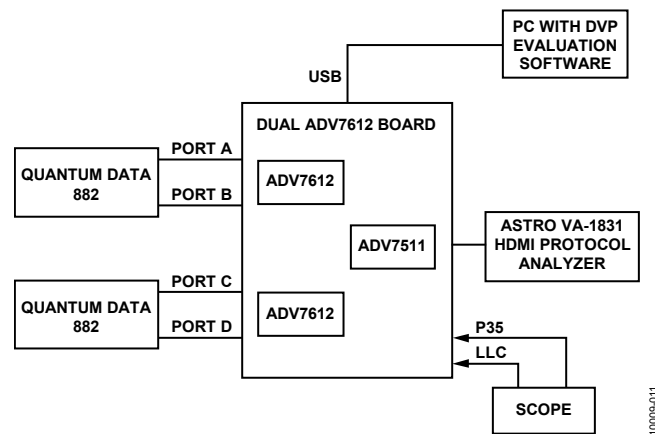

Figure 11. Test Setup
1. Prepare test configuration as shown in Figure 11.